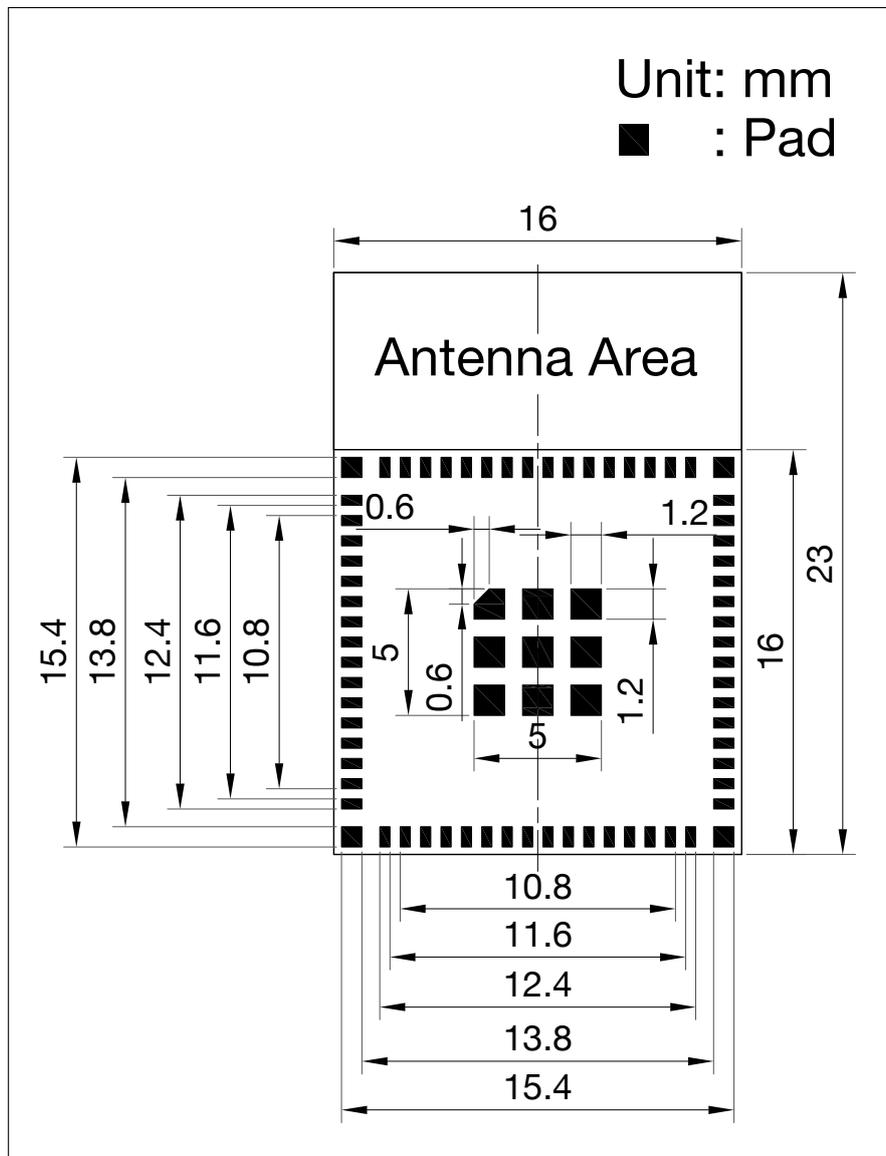

Figure 8: Recommended PCB Land Pattern
- Figures for recommended PCB land patterns with all the dimensions needed for PCB design. See Figure 8 *Recommended PCB Land Pattern*.
- Source files of recommended PCB land patterns to measure dimensions not covered in Figure 8. You can view the source files for ESP32-PICO-V3-ZERO with Autodesk Viewer.